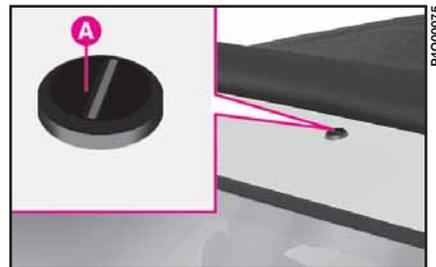

fig. 85
- 1) Remove the plastic cap **A-fig. 85** screwed onto the car roof.